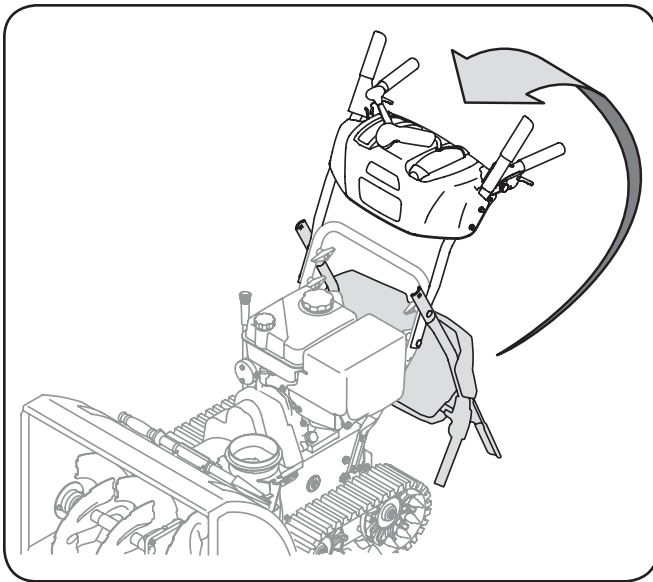

Figure 3-1
2. Remove the lower plastic wing nut and carriage bolt from each side of the upper handle; then raise the upper handle assembly until it snaps over the lower handle. See Fig. 3-1.